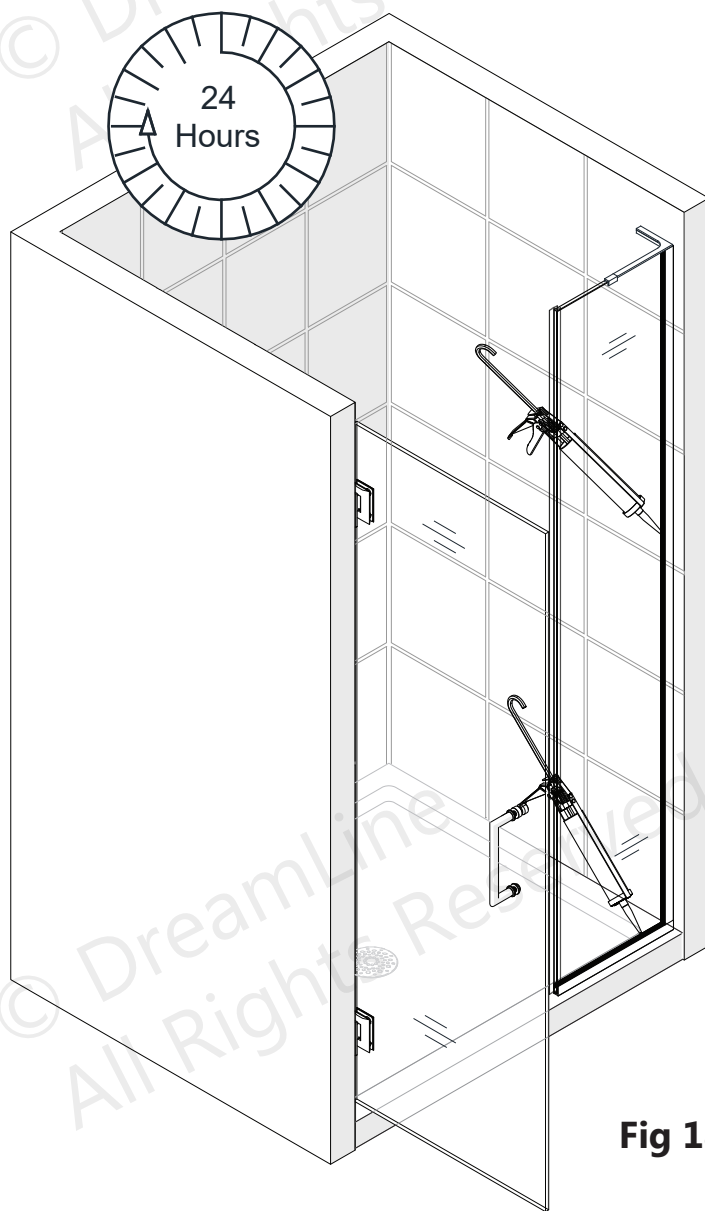

Fig 18
18. Apply a good quality mildew-resistant/waterproof silicone along the connection of both U-Channels to the wall and threshold on the inside of the shower. **(Fig 18)**